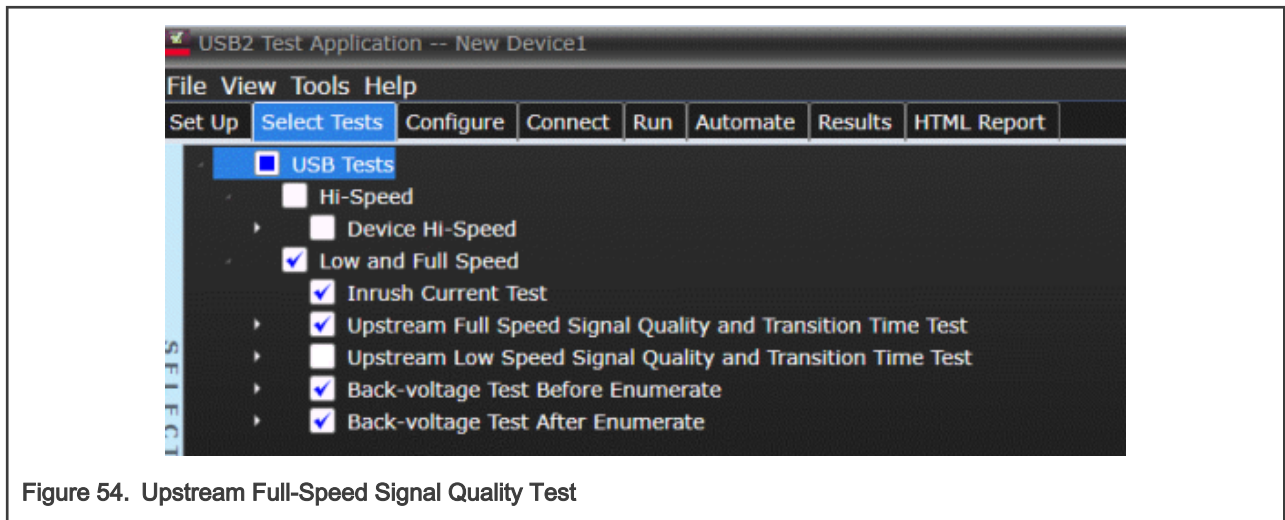

Figure 54. Upstream Full-Speed Signal Quality Test
1. Select the test items in the USB automated test software on the oscilloscope, as shown in Figure 54.
1. Select the test items in the USB Automated Test software on the oscilloscope as shown in Figure 54.